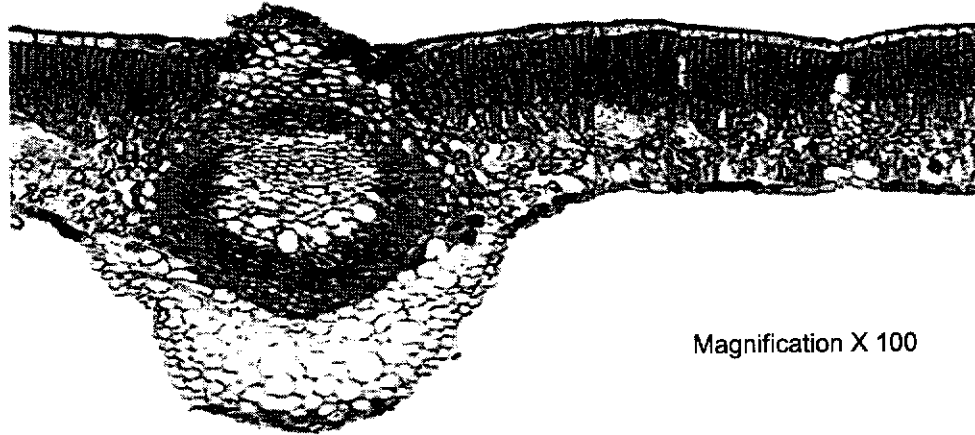
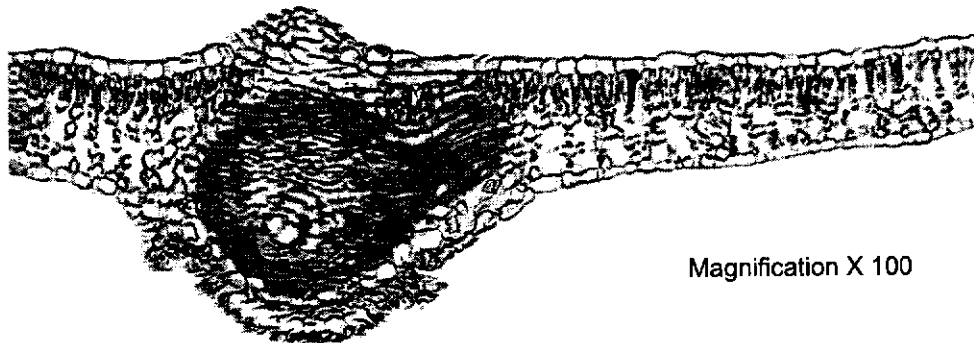

Fig. 3.3
Fig. 3.4
(d) Fig. 3.3 and Fig. 3.4 are photomicrographs of transverse sections (TS) of leaves from the same plant.
Record **one** observable differences between Fig. 3.3 and Fig. 3.4. in Table 3.1.
| feature | Fig. 3.3 | Fig. 3.4 |